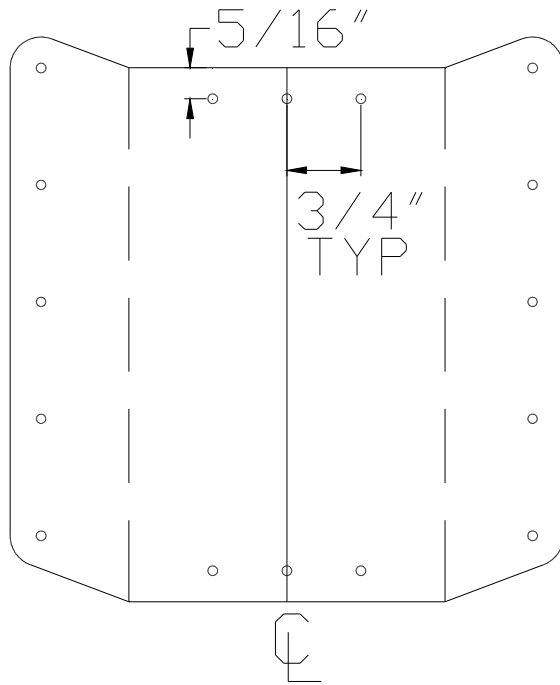

Figure 4.3.8
- 11) Layout and drill #40 two new rivet lines on the RU0405 as per figure 4.3.8.